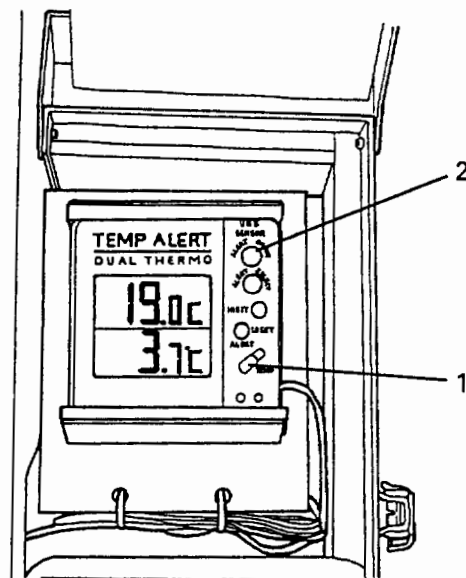

Figure 3-9 — Temp Alert, Dual Temperature Gauge
316. Push the Temp/Alert slide switch (1) to the "Alert" position, press the "Alert On/Off" switch (2) to activate the alarm within the gauge (Fig 3-9).